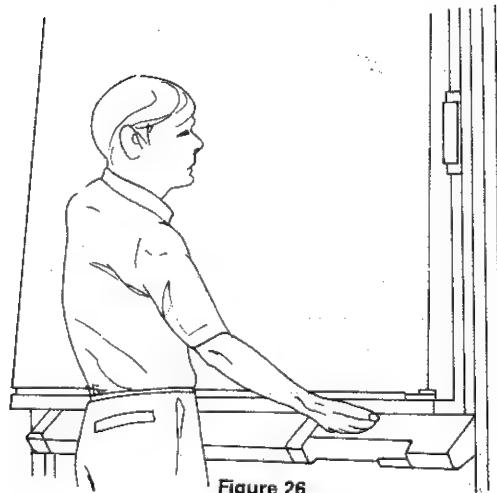

Figure 26
(10) Push the sheet bobbin holder lever in the upper part of the right side Board, and remove the upper part of the white sheet bobbin. (Figure 26)